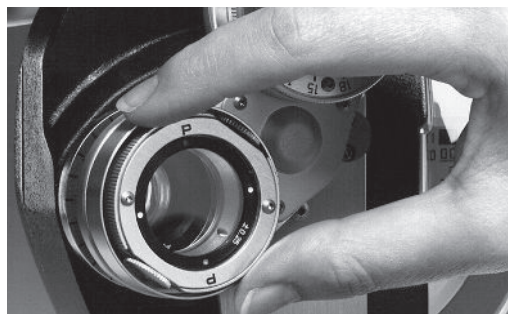

Figure JC-4 Power Check
1. To reach the power check position from axis check, the practitioner merely rotates the unit clockwise to the next detent position. Visual confirmation of the correct power check position finds the white dots, or the red dots and letters "P" (for power) on the cross cylinder. Refer to Figure JC-4.